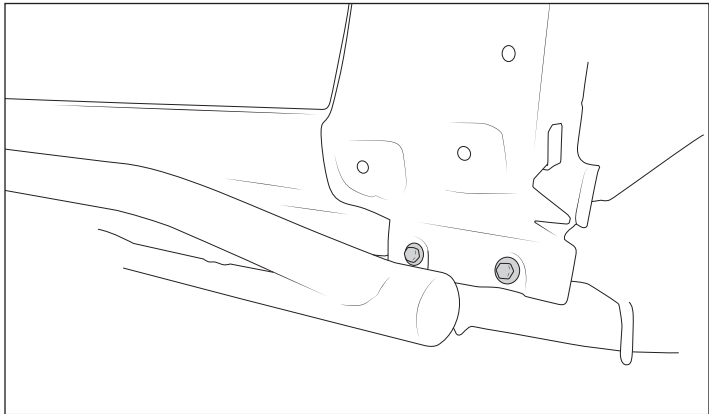

Figure 9
c. Remove two lower attachment points (fig. 9).